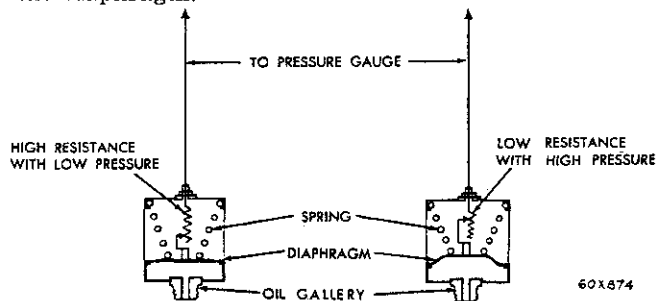

Fig. 137—Oil Pressure Sending Unit
e. Oil Pressure Sending Unit (Fig. 137)